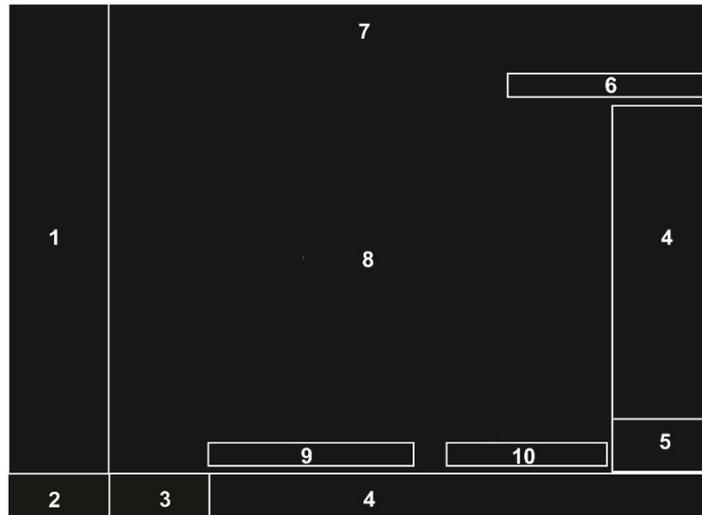

Fig. 5: Monitor unit
The nebulization ends automatically at the end of the set time or when the button is pressed again. The current time setting is displayed in the special functions area of the monitor (see Fig. 5/item 5). If the function is activated, the special functions area lights up blue, the “A” symbol appears, and the countdown starts (see chapter 3.2.6).
Press the »Preoxy« button to administer a pre-adjustable inspiratory oxygen concentration for a certain preset interval. The time can be set between 30 and 420 s in the Main menu under “Extra-func.” → “Preoxy time” or switched off entirely. The current time setting is displayed in the special functions area of the monitor (see Fig. 5/item 5).
Set the required time or the »Tinsp« option in the Main menu under “Extra-func.” → “Insp. hold” (see chapter 4.2.6). The current time setting is displayed in seconds in the special functions area of the monitor (see Fig. 5/item 5).
The current date (DD-MM-YY) and time are shown in the first two lines of the parameter display on the right side of monitor (see Fig. 5).